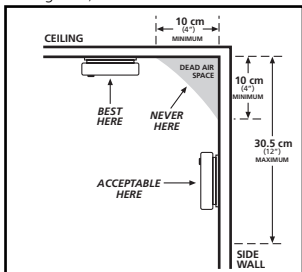

FIGURE 1
- When mounting an alarm on the ceiling, locate it at a minimum of 10 cm (4") from the side wall. (see Figure 1)
- When mounting the alarm on the wall, use an inside wall with the top edge of the alarm at a minimum of 10 cm (4") and a maximum of 30.5 cm (10") below the ceiling. (see Figure 1).
Modern caravans and mobile homes have been designed and built to be energy efficient. Install smoke alarms as recommended above (see Figures 1 and 2).
In older caravans and mobile homes that are not well insulated compared to present standards, extreme heat or cold can be transferred from the outside to the inside through poorly insulated walls and roof. This may create a thermal barrier which can prevent the smoke from reaching an alarm mounted on the ceiling. In such units, install the smoke alarm on an inside wall with the top edge of the alarm at a minimum of 10 cm (4") and a maximum of 30.5 cm (12") below the ceiling (see Figure 1).